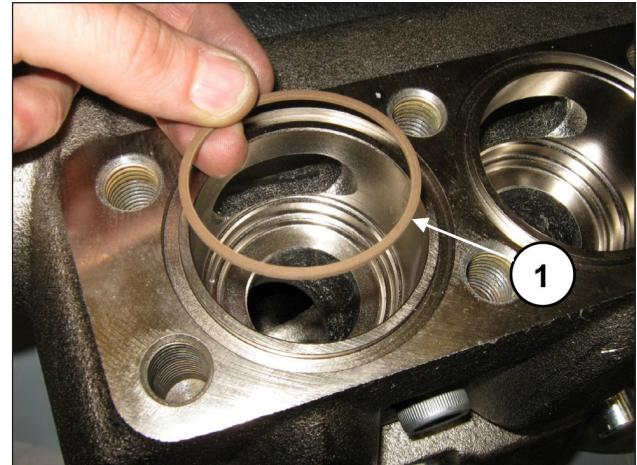

Fig. 156
Insert the back-up ring, exploded view pos. 23 (pos. ①, Fig. 156).